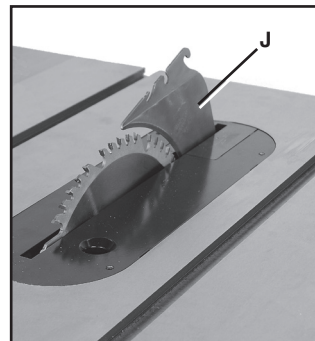
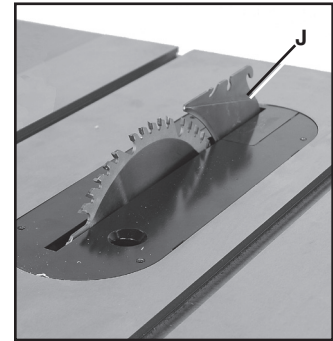
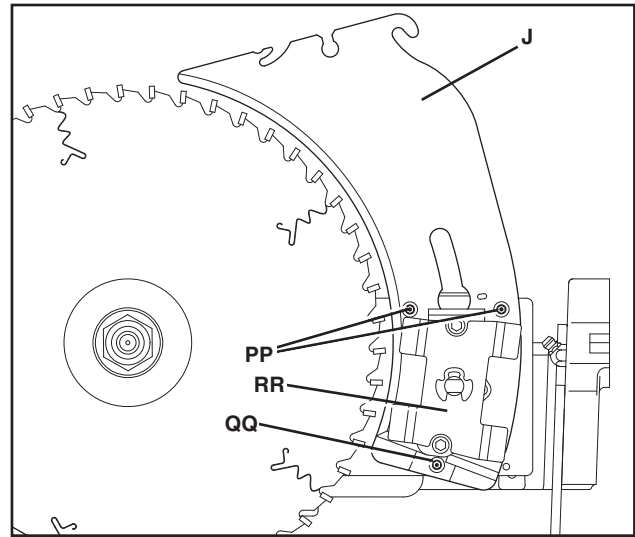
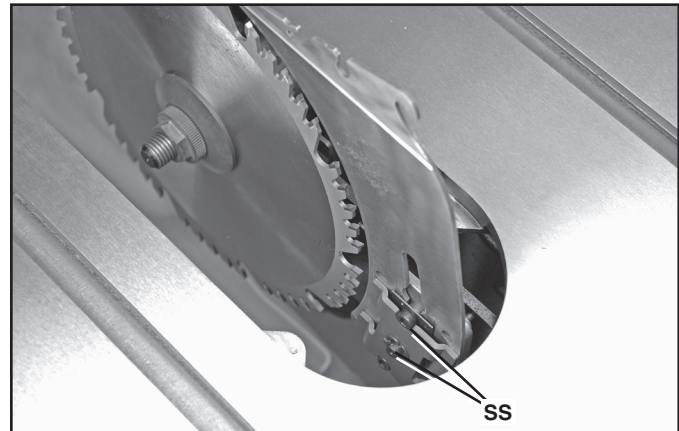

FIG. 27
FIG. 28
FIG. 33
FIG. 35
The riving knife (J) Fig. 27 and Fig. 28 can be used in through cuts (where the workpiece is completely cut in two) and non-through cuts. The riving knife can be moved to the high position (Fig. 27) for through cuts and to the low position (Fig. 28) for non-through cuts.
3. Raise the riving knife (J) Fig. 33 to the through-cutting or highest position (Fig. 27).
4. Locate the three small set screws (PP) and (QQ) adjacent to the riving knife locking plate (RR). These screws will be used to adjust the riving knife position.
5. Lay a straight edge on the table against blade body and make sure it extends out along the riving knife, as shown in Fig. 32. The riving knife should just touch the straight edge. If adjustment needed, loosen the two socket head cap screws (SS) Fig. 35.
6. Adjust the set screws (PP) and (QQ) Fig. 33 to move the riving knife in line with the blade according to the position noted in STEP 5. Lay the straight edge on the opposite side of the blade and repeat these adjustments as needed.
7. Lightly tighten the two socket head cap screws (SS) Fig. 35.
11. Fully tighten the two socket head cap screws (SS) Fig. 35.